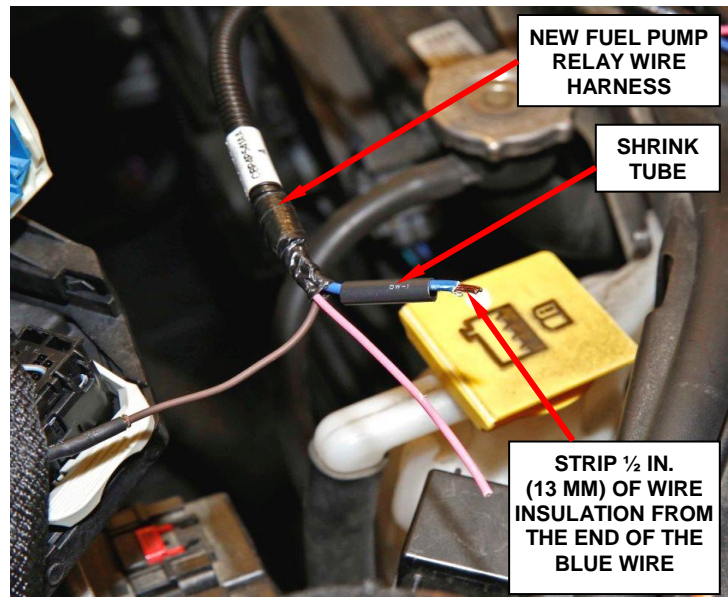

**Figure 13 – Cut the Blue (with Orange Trace) Wire**
16. Cut the blue (with an orange trace) wire one inch (25 mm) from the 40-way electrical connector (Figure 13).
17. Install shrink tube to the connector side blue (with an orange trace) wire to insulate the wire end. This wire will no longer be used (Figure 13).